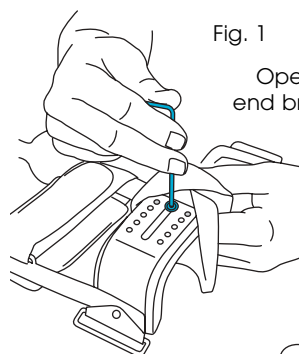

Fig. 1
- Using an allen wrench (included with brace), loosen the two screws on the medial and lateral uprights of each end bracket (Fig. 1).
- Using an allen wrench (included with brace), loosen the screw on each bracket (Fig. 1).